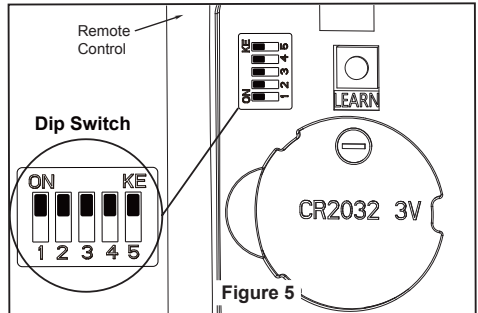

Figure 5
- ☐ 5. Connect the 2 single pin connectors from the LED assembly to the 2 single pin connectors from motor assembly. (Figure 5)
5. To set the remote code same positions as the receiver with a small screwdriver or ball point pen (neither included), slide dip switches firmly up or down. (Figure 5)